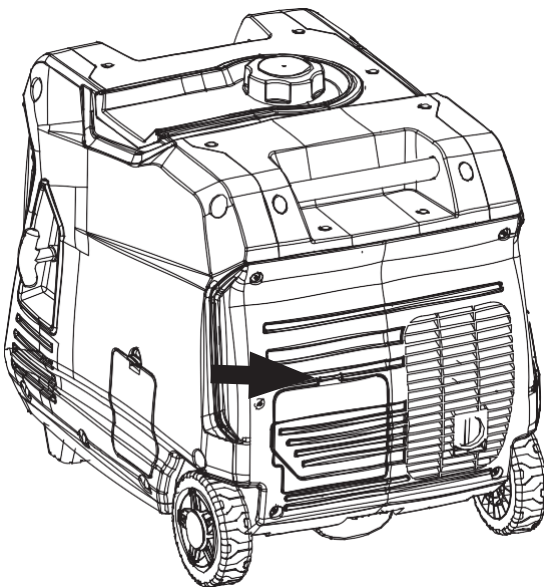

Figure 1: Battery Service Panel
11. Unclip the battery access panel on the back of the unit next to the muffler (see Figure 1).